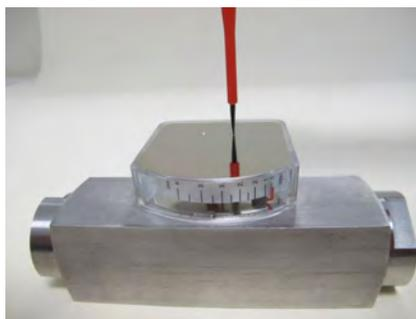

Fig. 37
1. Loosen fixing screws on the display cover plate (Fig. 37)